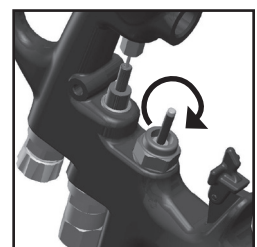

Fig. 36
11. Tighten air valve assembly using fingers first, then tighten with 14 mm wrench. Torque from 18 to 22 ft.-lbs. (See fig 36)